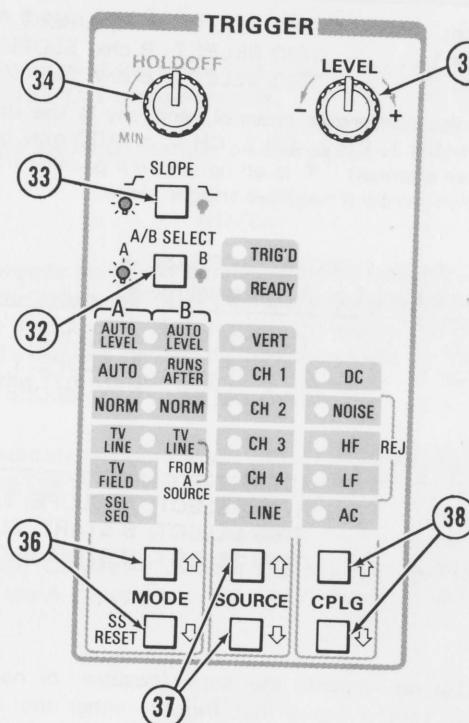

Figure 2-5. Trigger controls and indicators.
Refer to Figure 2-5 for location of items 32 through 38.
- (32) **A/B SELECT Button**—Directs the MODE, SOURCE, CPLG, SLOPE, and LEVEL controls and Trigger lights (TRIG'D and READY) to either the A or B Trigger system (A, when lit; B, when not lit).